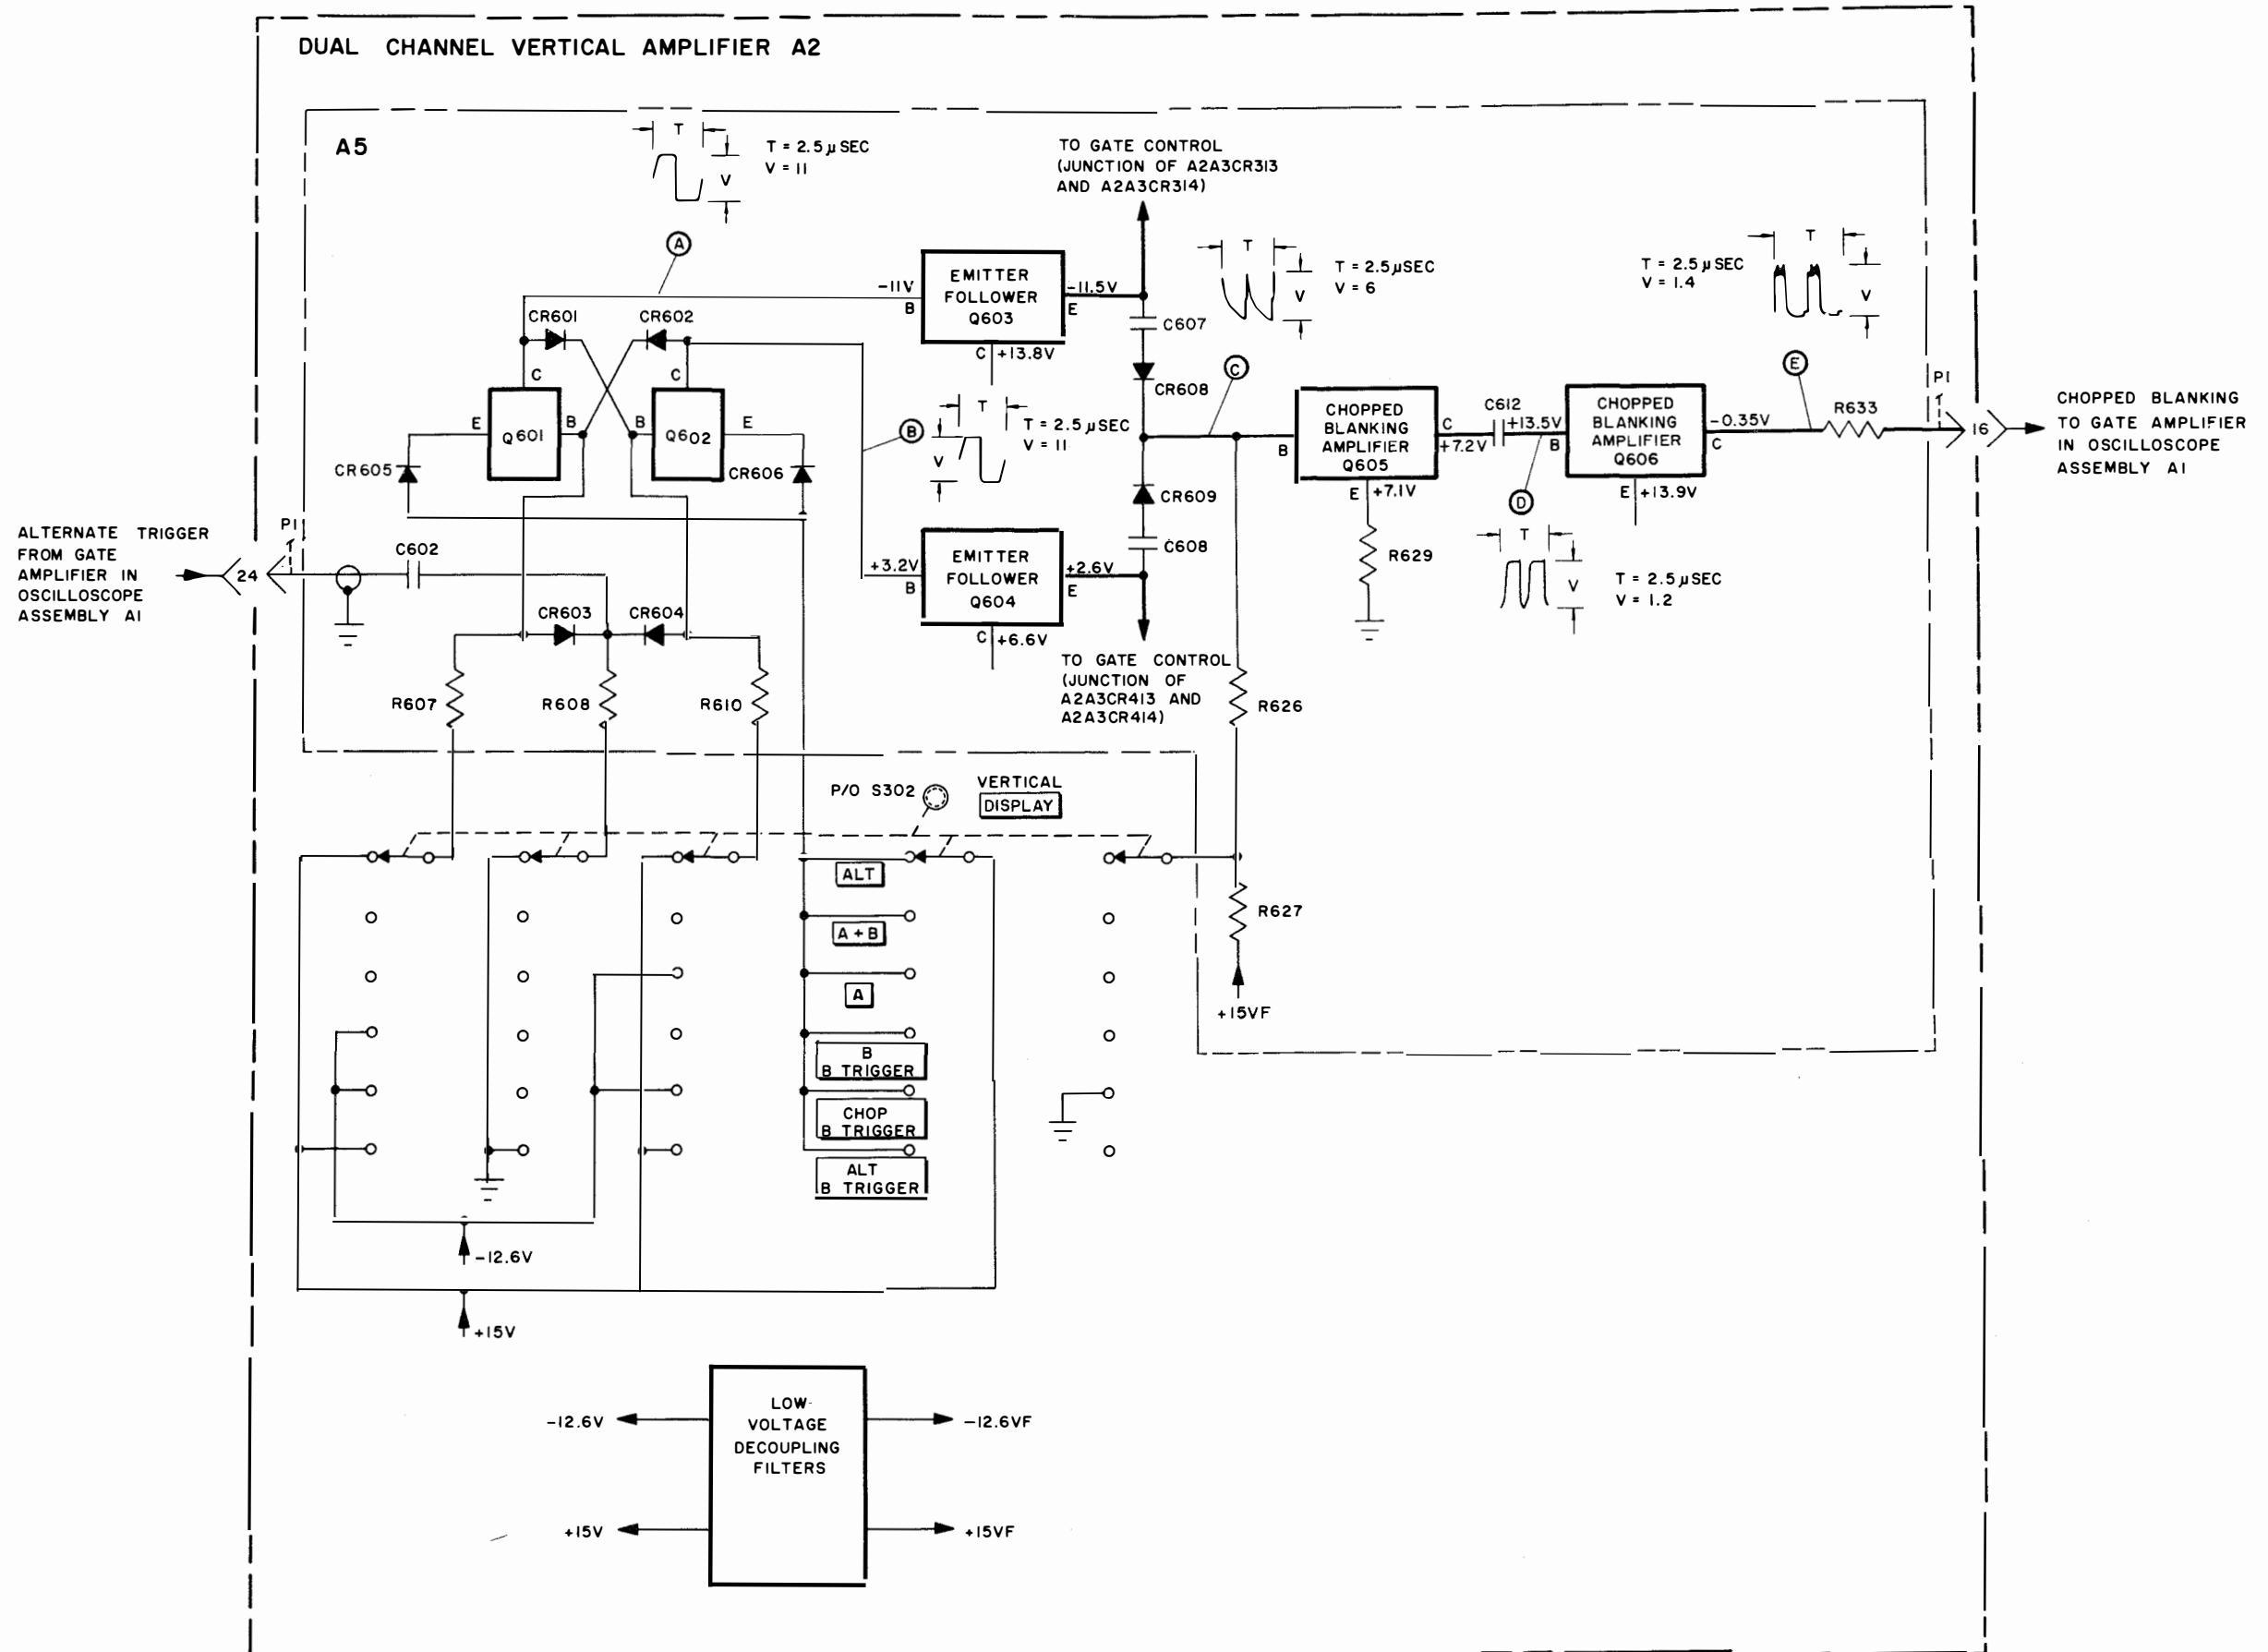

Figure 4-10. Multivibrator Functional and Servicing Block Diagram
a. MULTIVIBRATOR FUNCTIONAL DESCRIPTION. - The multivibrator (consisting of A2A5Q601 and A2A5Q602) is controlled by vertical DISPLAY switch A2S302. See figure 4-10. In the A and B positions the multivibrator is monostable and does not switch. In ALT and ALT B TRIGGER the multivibrator is bistable, in CHOP B TRIGGER the multivibrator is free-running and in A+B the multivibrator is inoperative.
b. MULTIVIBRATOR TROUBLE SHOOTING. - The trouble-shooting chart for the multivibrator functional section is provided in table 4-9 and the servicing block diagram is shown in figure 4-10.
The multivibrator functional section controls the gate to the vertical output amplifier and, acting as an on/off switch, determines which input signal (A and/or B) is applied to the vertical output amplifier. A malfunction in this section could cause any of the following problems: A failure of the oscilloscope to operate in any of the dual trace modes, a failure of the oscilloscope to operate in the A or B mode, an incorrect display while operating in the A or B mode, and the appearance of switching transients when operating in the CHOP B TRIGGER mode. If the oscilloscope does not produce a dual trace in the ALT, ALT B TRIGGER, or CHOP B TRIGGER modes but operates in the A+B mode, the multivibrator is at fault. If the oscilloscope operates in the CHOP B TRIGGER mode and not in the alternate modes, check the multivibrator triggering circuit and the gate amplifier functional section. If the vertical amplifier functions on one channel and does not function on the other channel or in the A+B mode, or if an incorrect display is produced while operating in a single channel mode, check for shorted or open transistors A2A5Q603 and A2A5Q604 (figure 4-10) or defective multivibrator (A2A5Q601/A2A5Q602). If switching transients appear while operating in the CHOP B TRIGGER mode and the trace appears to be of normal intensity, check the chopped blanking amplifier (A2A5Q605/A2A5Q606) in this functional section.
c. USEFUL ILLUSTRATIONS. - Illustrations useful in maintaining this functional section are: Figures 4-10, 5-24 and 5-31.